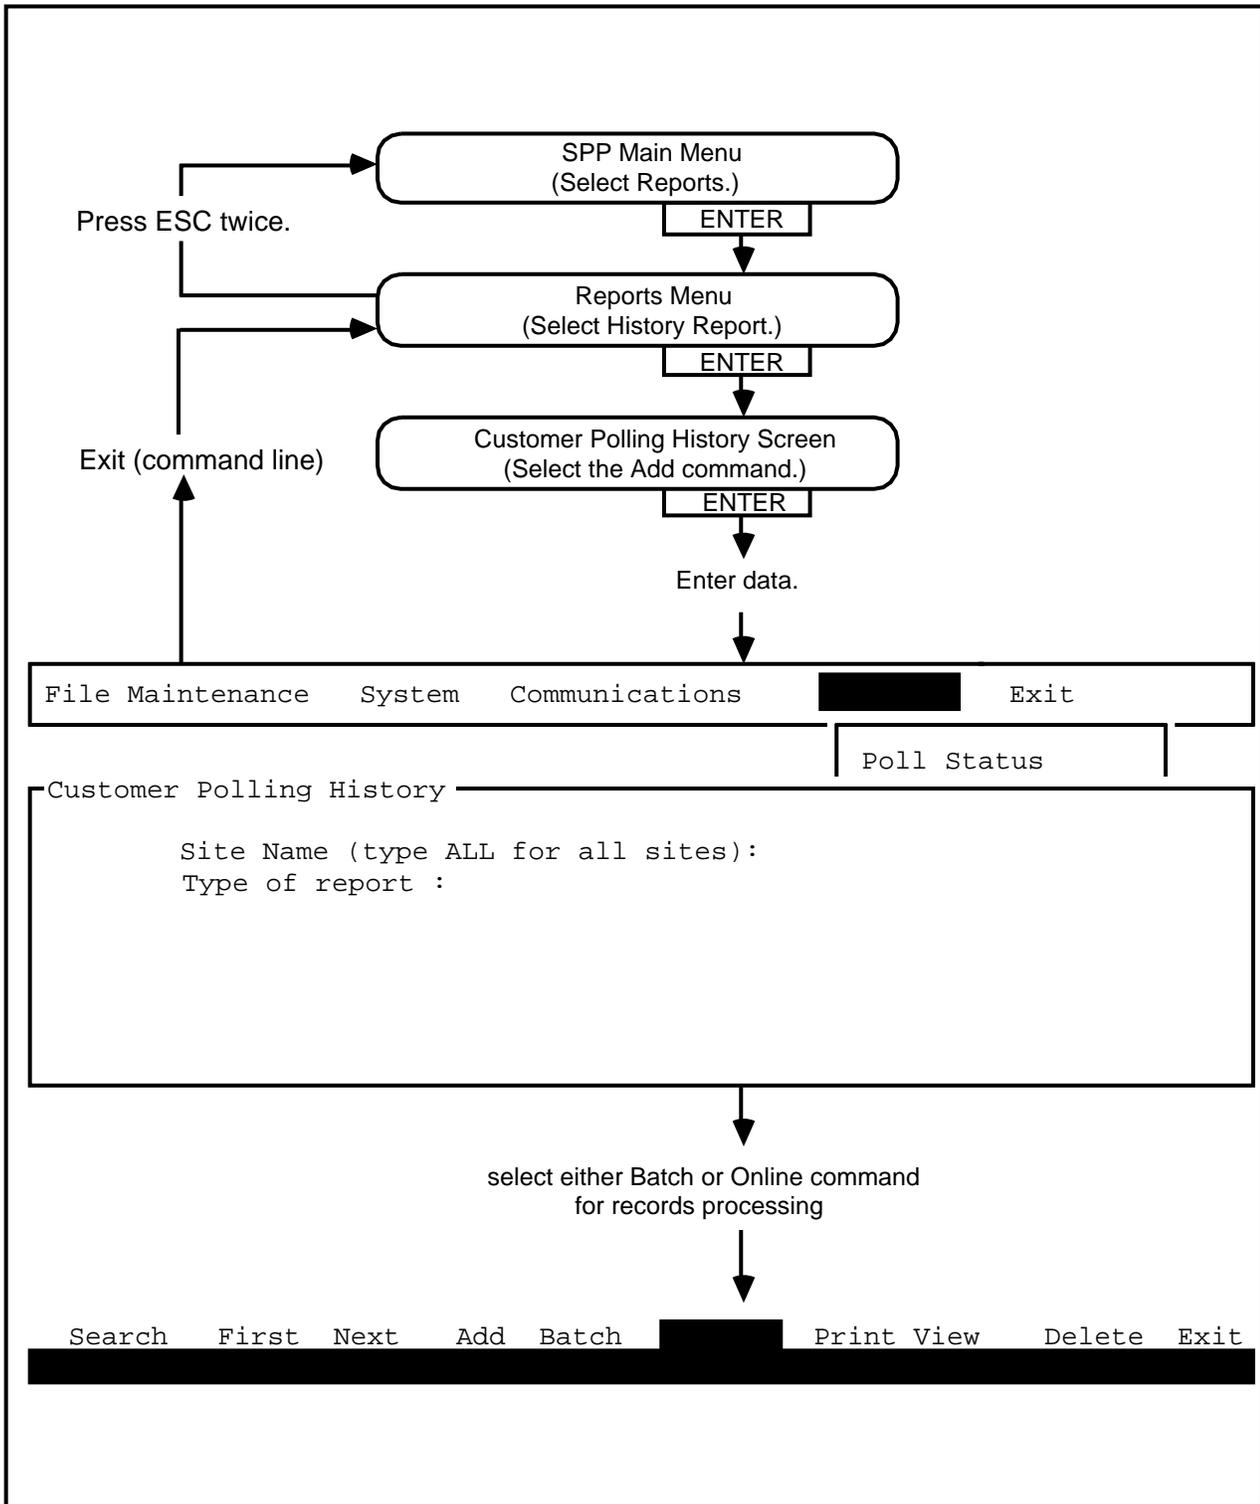

Fig. 6-8
6.22 To generate customer polling history reports (see Fig. 6-8) proceed as follows: